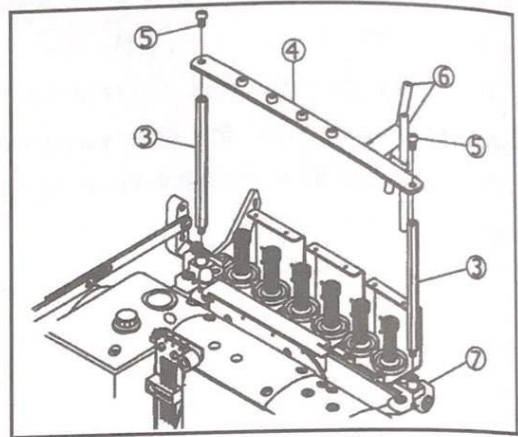

Fig.12
將線架支柱③裝在線架固定座⑦，再將過線架④用螺絲⑤鎖在線架支柱③，調整過線桿⑥，使穿線平順，不致於線會糾結在一起。(Fig.12)
Adjust the thread pipes⑥ to thread smoothly without entangling. (Fig. 12)